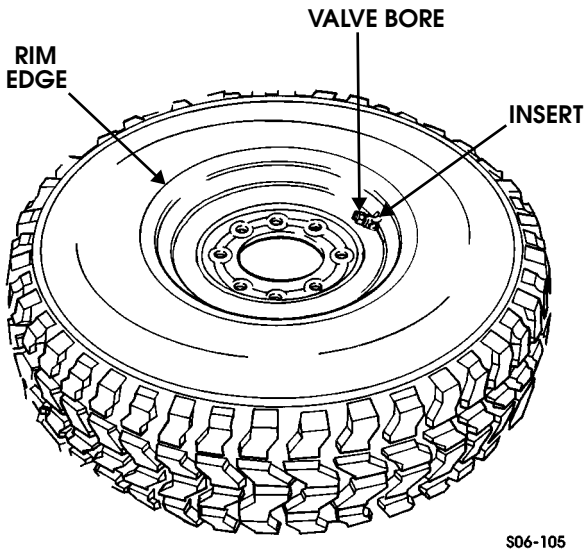

Figure 6-21: Leak Check Areas
8. Check for leaks around rim edges and valve bore with soapy water (Figure 6-21).